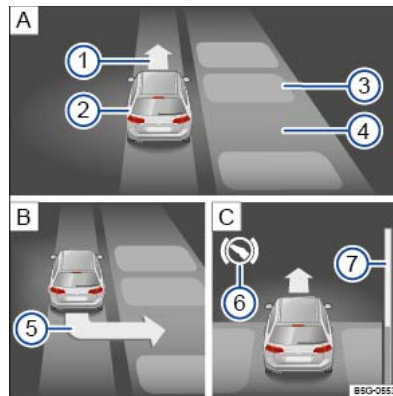

Fig. 158 On the instrument cluster display: parking perpendicular to the road. Looking for a parking space, positioning the vehicle for parking and manoeuvring.
- Drive into the parking space when a corresponding prompt ⇒ Fig. 158  is shown on the instrument cluster display ⇒ Driving into a parking space.
Key to  **Fig. 158** (reverse perpendicular parking mode):
- Brake when an acoustic signal prompting you to change direction sounds, an arrow  **Fig. 158**  lights up, the white symbol  lights up or a message is displayed.